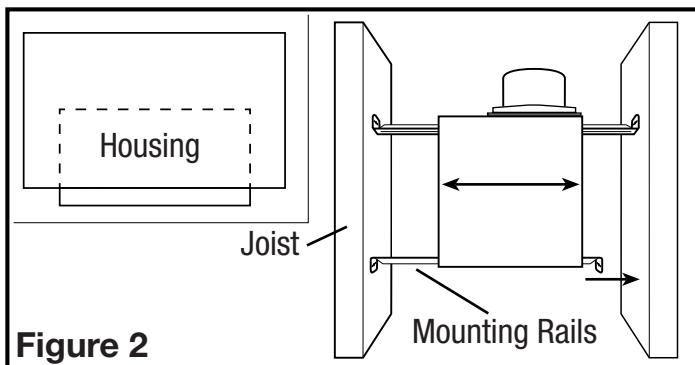

Figure 2
1. Install the rails on the housing and position the housing next to the joist. Line up housing so that it will be flush with the finished ceiling. Secure the ends of the rails with screws or nails (not included) to the joists and slide the housing into the final position (Figure 2).